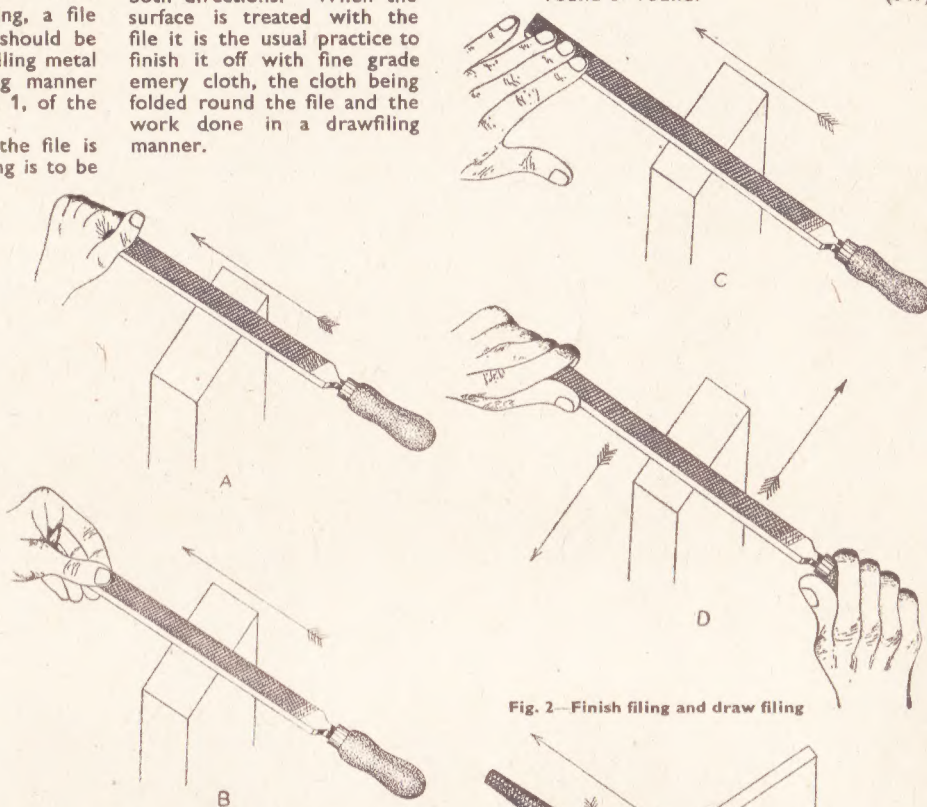
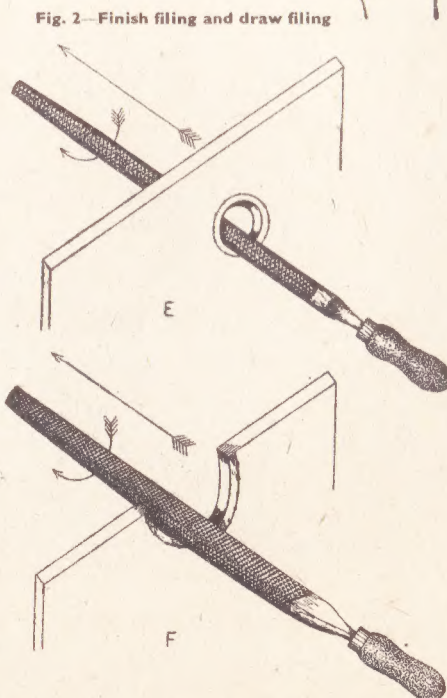

Fig. 1—Heavy and light filing
Fig. 3—Filing holes and curves
For a guide where a piece of work requires heavy or rough filing, a file with fairly coarse cut teeth should be used. The method of rough filing metal is described in the following manner with the aid of view (A) Fig. 1, of the accompanying illustrations.
Much depends upon how the file is held if the work of heavy filing is to be done with more or less ease. The left hand should grip the end of the file, as indicated in view (A) Fig. 1, and the right hand should grip the handle firmly. When filing do not use the file in a see-saw manner, take firm strokes, keeping the file flat and use pressure and force in a forward direction indicated by the arrow. Relieve the pressure and force on the backward stroke, simply allowing the file to trail over the surface of the work.
For light filing a slightly different application is needed if the work is to be a success. A file with medium cut teeth is used for light filing, and the file is held at the end with the grip made by the thumb and finger tips, as indicated by view (B) Fig. 1. Use less force and pressure as applied for heavy filing, but the required pressure is made likewise on the forward stroke in the direction of the arrow.
Two further hints on filing may be of interest to many readers, and these deal with filing out holes and curves in metal. The method of enlarging a hole is described with the aid of view (E) Fig. 3. The end of the round file is best held as indicated in view (B) Fig. 1, the handle being gripped in the usual manner. Commence filing the hole with firm forward strokes in the direction of the arrow, and at the same time turn the file in a clockwise direction as indicated by the curved arrow.
When filing out a curve as indicated in view (F) Fig. 3, the